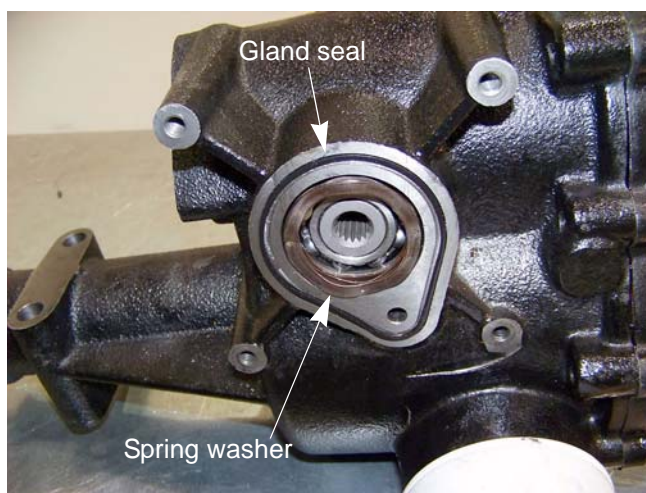

Figure 5.39
12. Remove the spring washer and the gland seal from the right transmission housing. See Figure 5.39.